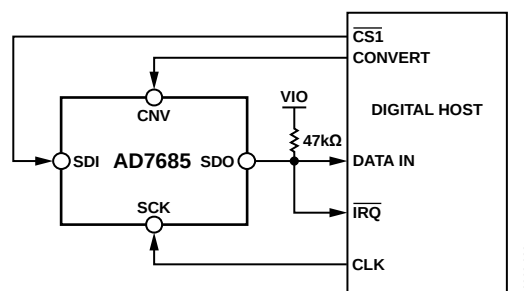
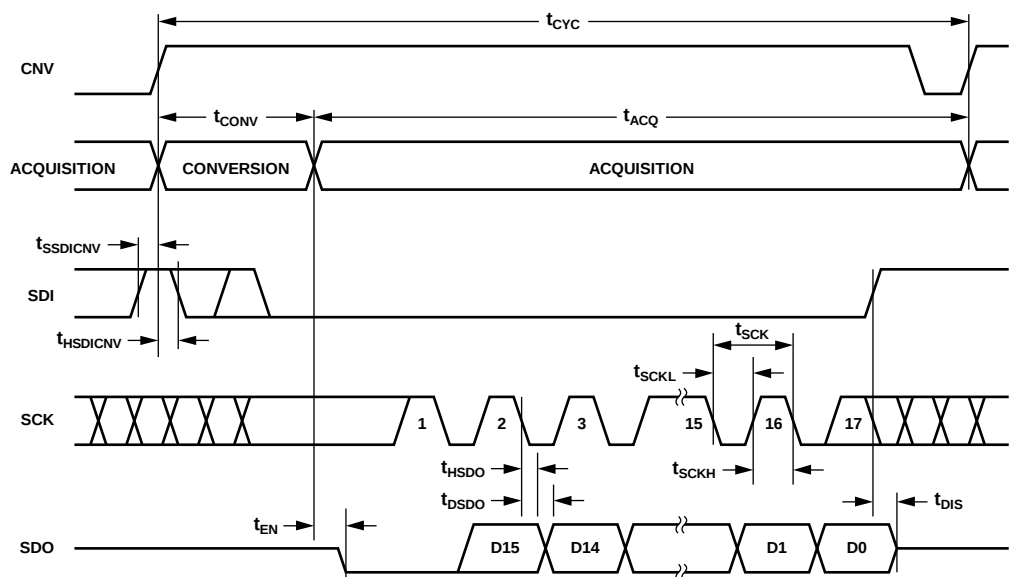

Figure 40. $\overline{CS}$ Mode 4-Wire with BUSY Indicator Connection Diagram
Figure 41. $\overline{CS}$ Mode 4-Wire with BUSY Indicator Serial Interface Timing
- In the $\overline{CS}$ mode, if CNV or SDI is low when the ADC conversion ends (see Figure 37 and Figure 41).
The connection diagram is shown in Figure 40, and the corresponding timing is given in Figure 41.